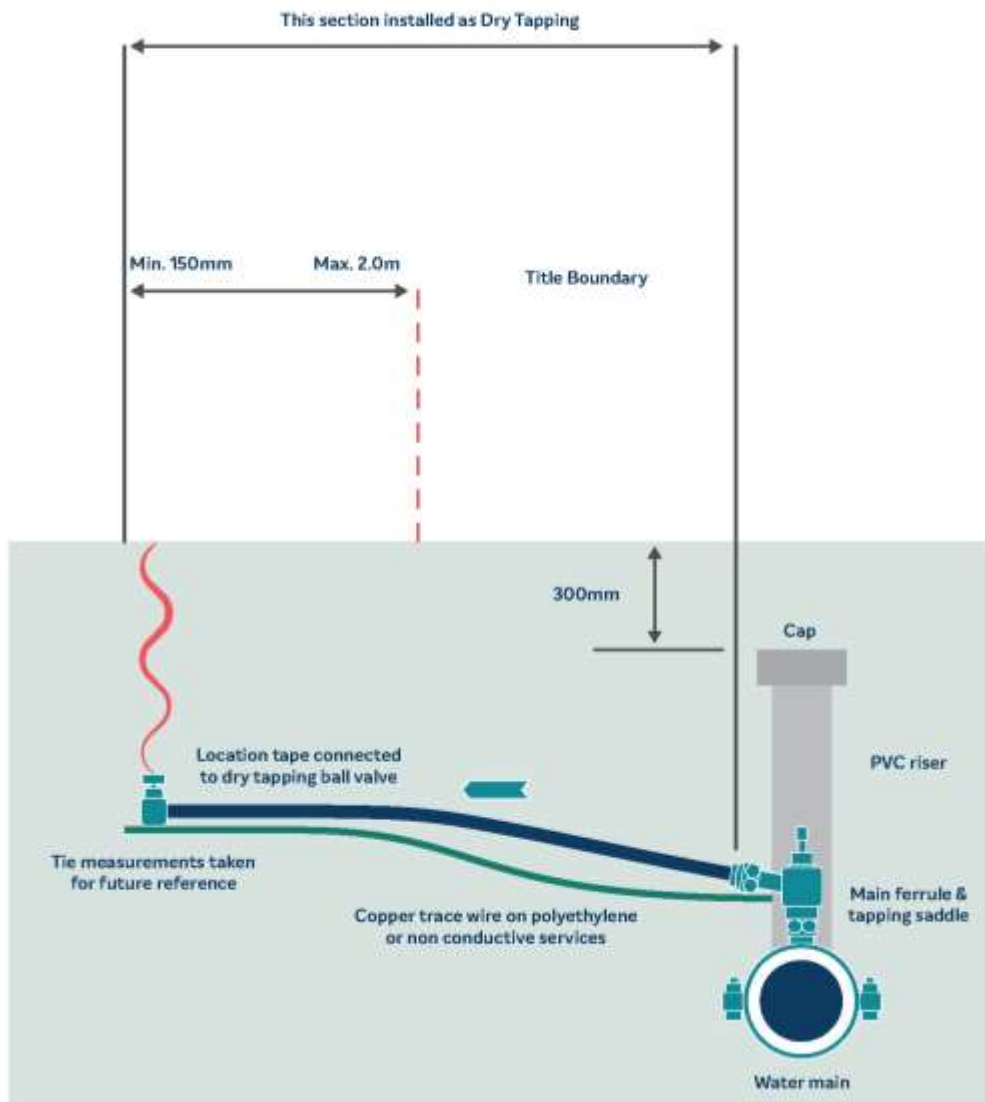

Figure 1 20mm dry tapping meter set up requirements
- If using Polyethylene (PE) a trace wire must place along the entire length of pipe from the main ferrule
- That accurate offset measurements are taken referring to the location of the ball valve in relation to the boundary lines and submitted to Barwon Water. (See Figure 1 & 2)
- If using Polyethylene (PE) a trace wire must place along the entire length of pipe from the main ferrule.